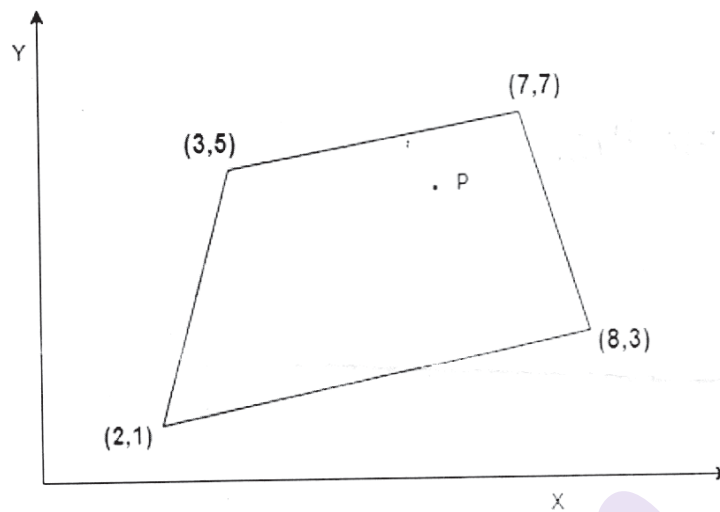

Fig. 2
- Q2) a)** Determine the Cartesian Coordinate of Point P ( $\xi = 0.25, \eta = 0.5$ ), shown in Fig. 2 [10]